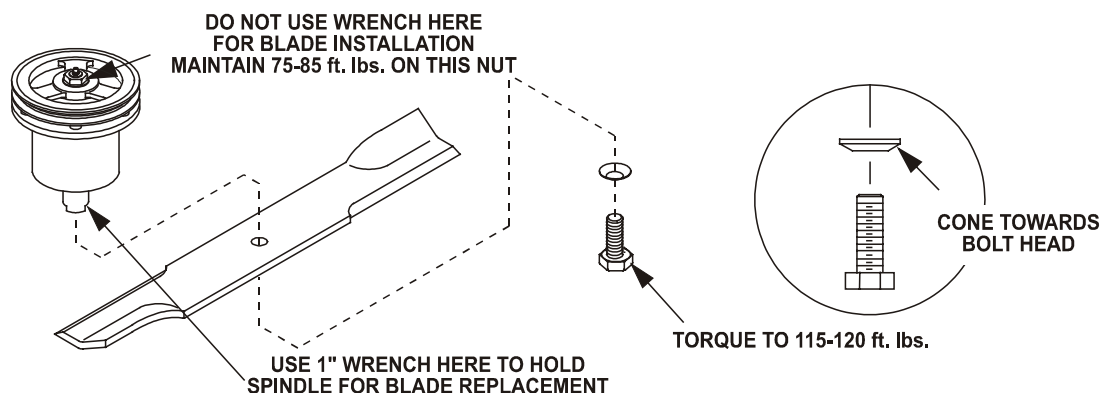

FIGURE 8
- g) Re-install the blades (if they were removed) and torque blade bolts to 115-120 ft. lbs. Be sure the spring disc washer cone is installed toward the bolt head (See Figure 8).